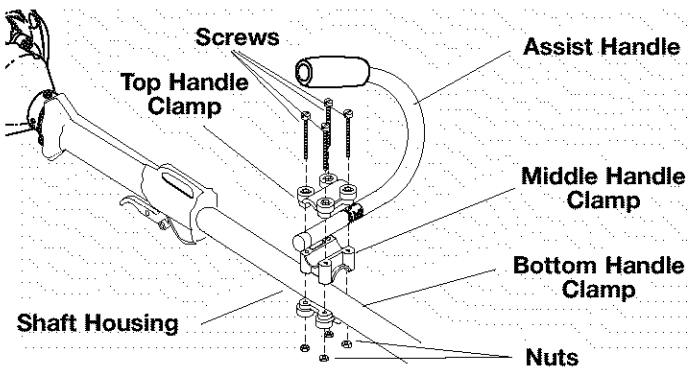

Fig. 1
1. Place the assist handle between the top and middle clamp pieces (Fig. 1).
2. While holding these three pieces together, install the four (4) screws through the top clamp and into middle clamp.